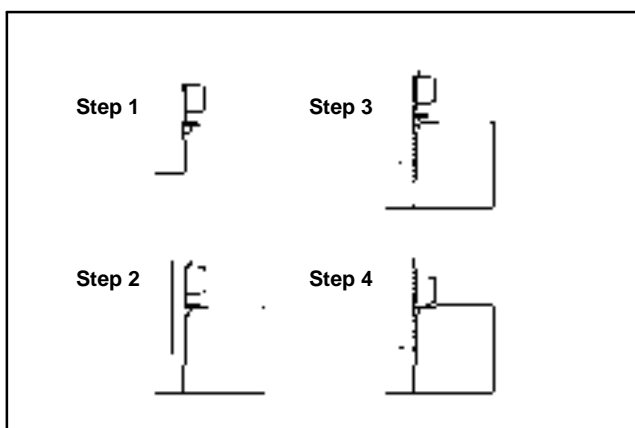

Figure 8
4. Turn back the lock nut as far as possible. Make sure the back up washer is not loose and is pushed up as far as possible (Step 1 in Figure 8).